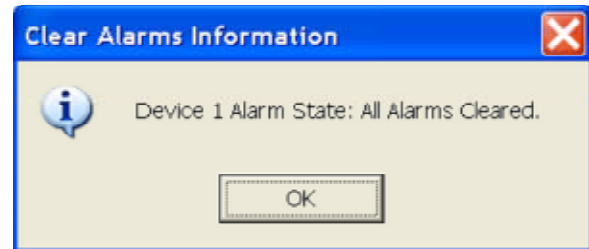

Figure 9-4. Alarms Cleared.
3. After all alarms have been cleared for the device, a pop-up notification will display to notify the user that all alarms are clear (Figure 9-4).
4. Click 'OK' to dismiss the 'Clear Alarms' pop-up notification (Figure 9-4).